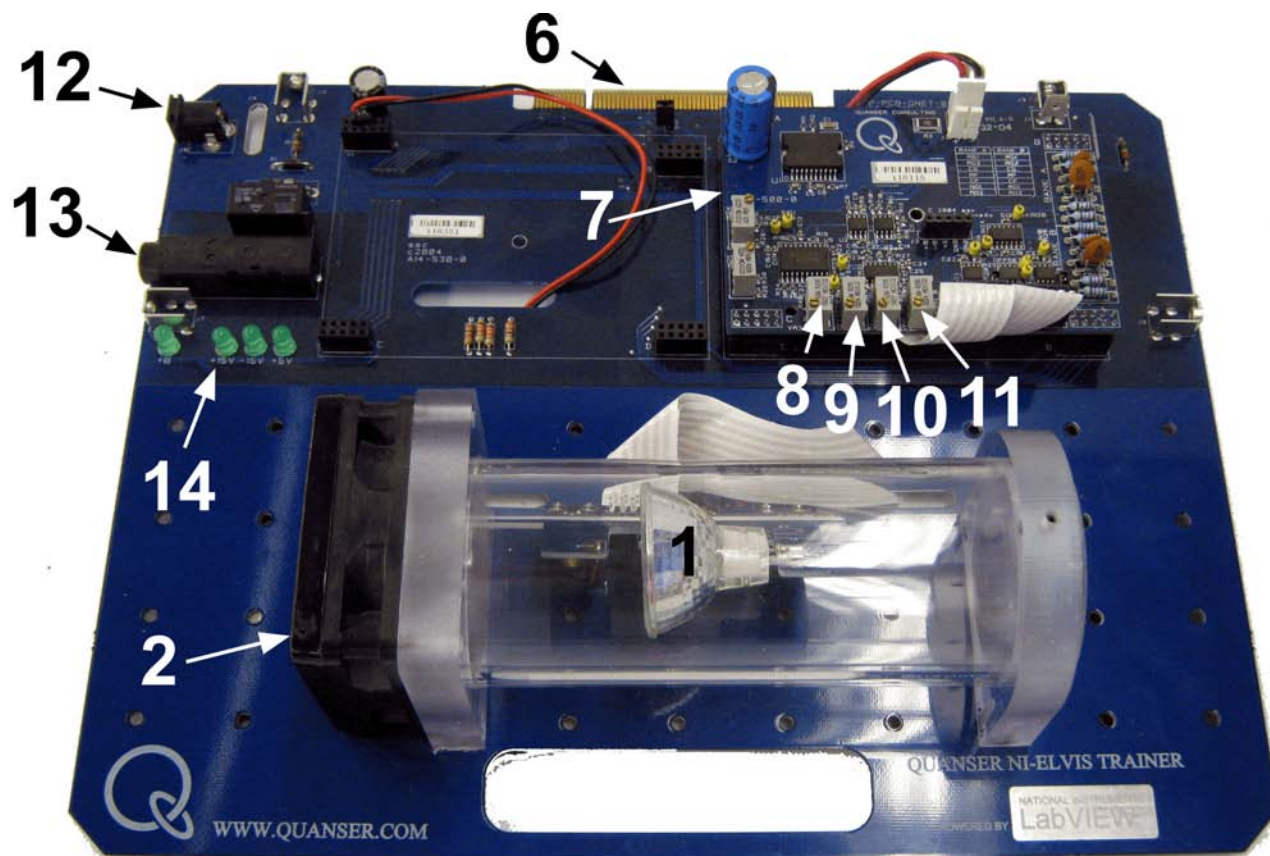
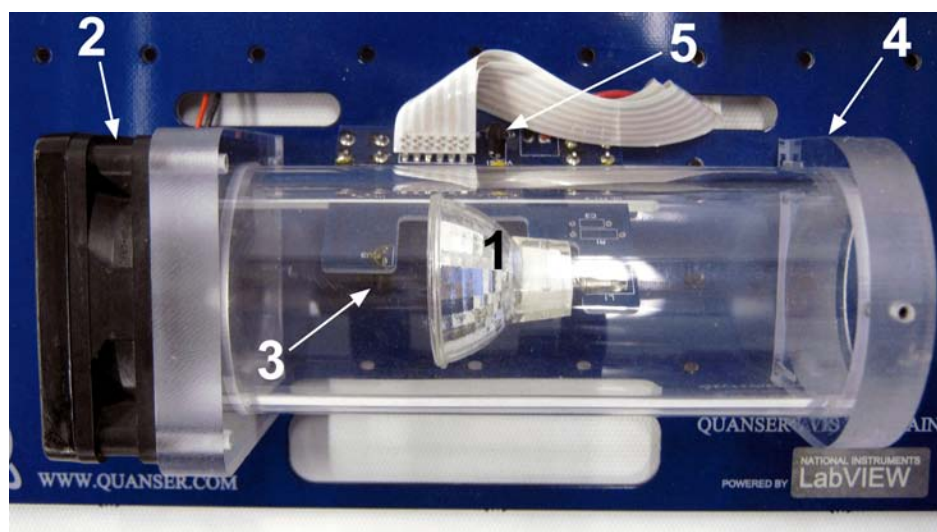

Figure 12: General layout of QNET-HVACT.
Figure 13: Components of QNET-HVACT heating chamber.
The photograph in Figure 12 shows an overview and the general layout of the QNET heating and ventilation trainer (HVAC trainer) system.
The HVACT components in Figure 12 and Figure 13 are located and identified by a unique ID in Table 4.
5. The thermistor offset can be changed on the QNET PWM/Encoder board. The offset of the chamber thermistor and ambient thermistor sensors are ID #9 and ID #10 in Figure 12. Take a screwdriver with a small head and vary the knob corresponding to the sensor that needs to be calibrated. The offset is decreased by turning the knob clockwise.
7. **Do not change the sensor gain adjustments, ID #8 and ID #11 in Figure 12.** They are both turned counter-clockwise to get the maximum gain before the shipment.